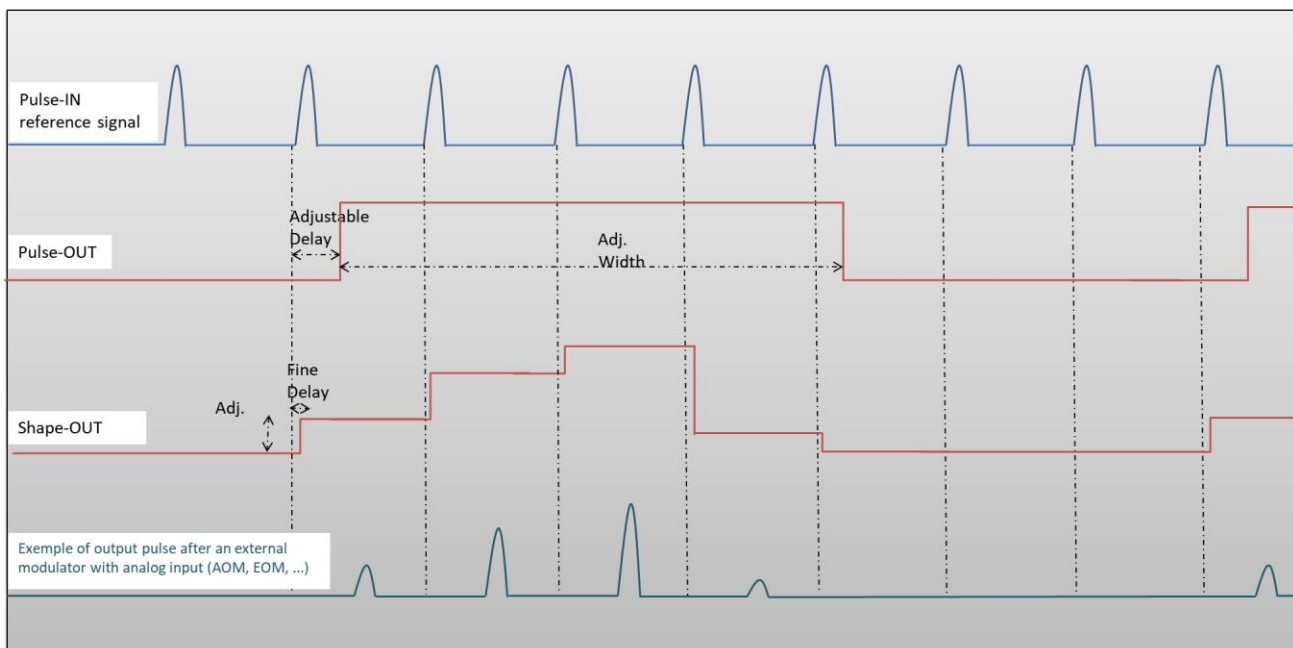

Figure 18 : Analog (Shape-OUT) and digital (Pulse-Out) outputs with amplitude, delay and pulse width adjusted signals from input
- **Auto Fine Delay** may be let in auto mode or manual if you need to adjust the fine delay from reference signal to each shape point (see Figure 18).